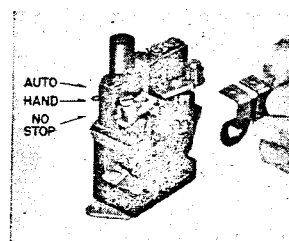

FIG. 1. Thermal Overload Relay, Showing Heater and Installation Method
The overload relay is furnished set for Hand reset operation. The relay may be set for Automatic reset, Hand reset, or Hand reset with no manual means of opening the contacts. The type of operation is determined by the position of the control spring in the notched pushrod; the respective positions (as illustrated in Fig. 1) are indicated by "Auto", "Hand" and "No Stop". The positions are indicated as follows; "Hand", "No Stop" by alignment of spring arm with the ribs on the base, the "Auto" by the spring arm against the upper shoulder of the base. Automatic reset should not be used with two-wire master switch.
3. Install heater as shown in Fig. 1, making sure that heater mounting screws are tight.